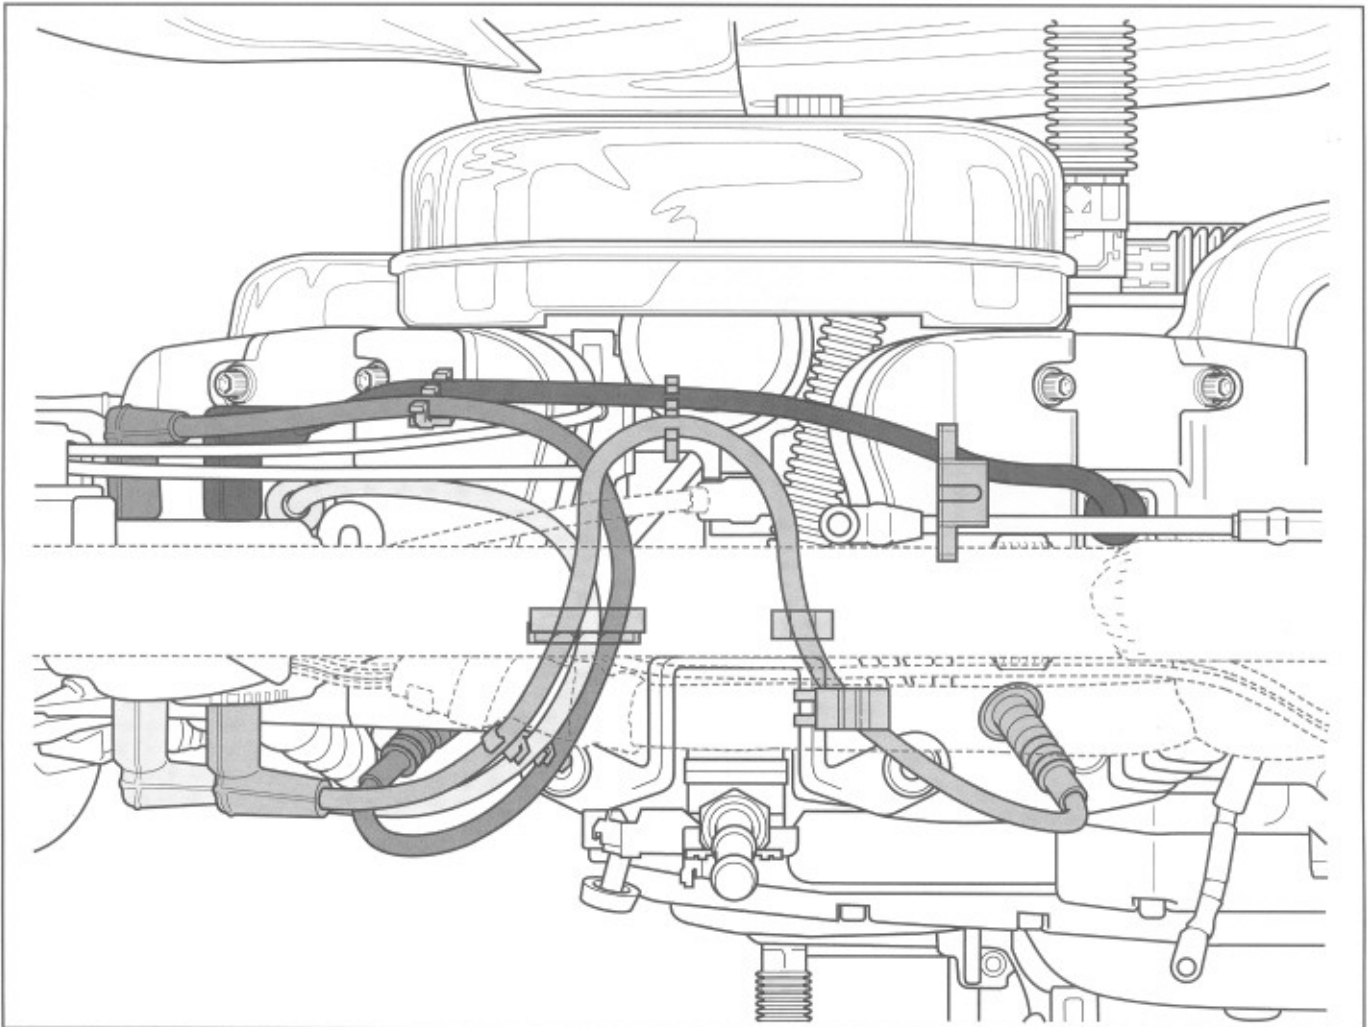

Figure 7-37. 1200S Spark plug cable routing
3. Remove plug wires from coil towers (note location, see Figure 7-37).
4. Attach plug wires to coil towers (see Figure 7-37).